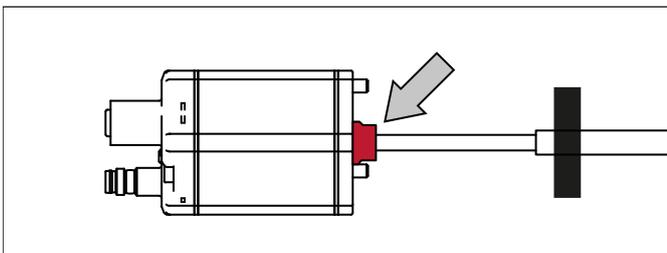

Fig. 34: Remove sealing before inserting into sensor rod HD/HL/HP
- The base unit is mounted by means of three screws. It is the only part that needs to be replaced if servicing is required, i.e. the hydraulic circuit remains closed. Before inserting the base unit into the sensor rod HD/HL/HP, remove the red sealing at the transition between the sensor electronics housing and the flexible sensor rod (Fig. 34). For more information see chapter “4.9.1 Replacement of base unit on the RH5/RFV/RF5 model” on page 48.